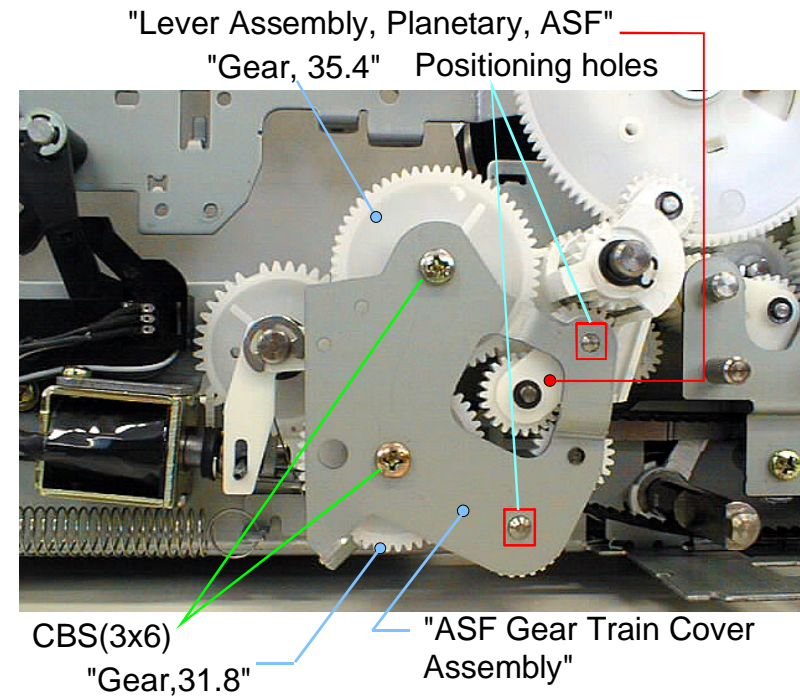

Figure 4-110. Installing "ASF Gear Train Cover Assembly"
30. Insert an axis on the "Lever Assembly, Planetary, ASF" and an axis on the "Gear, 17.4" into 2 holes on the "ASF Gear Train Cover Assembly", and tighten 2 CBS screws (3x6) on the axes of "Gear, 35.4" and "Gear, 31.8". (Refer to Figure 4-110)
When installing "ASF Gear Train Cover Assembly", install it after checking that the angle of "Lever Assembly, Planetary, ASF" is tilted toward left, as it is shown in Figure 4-110.